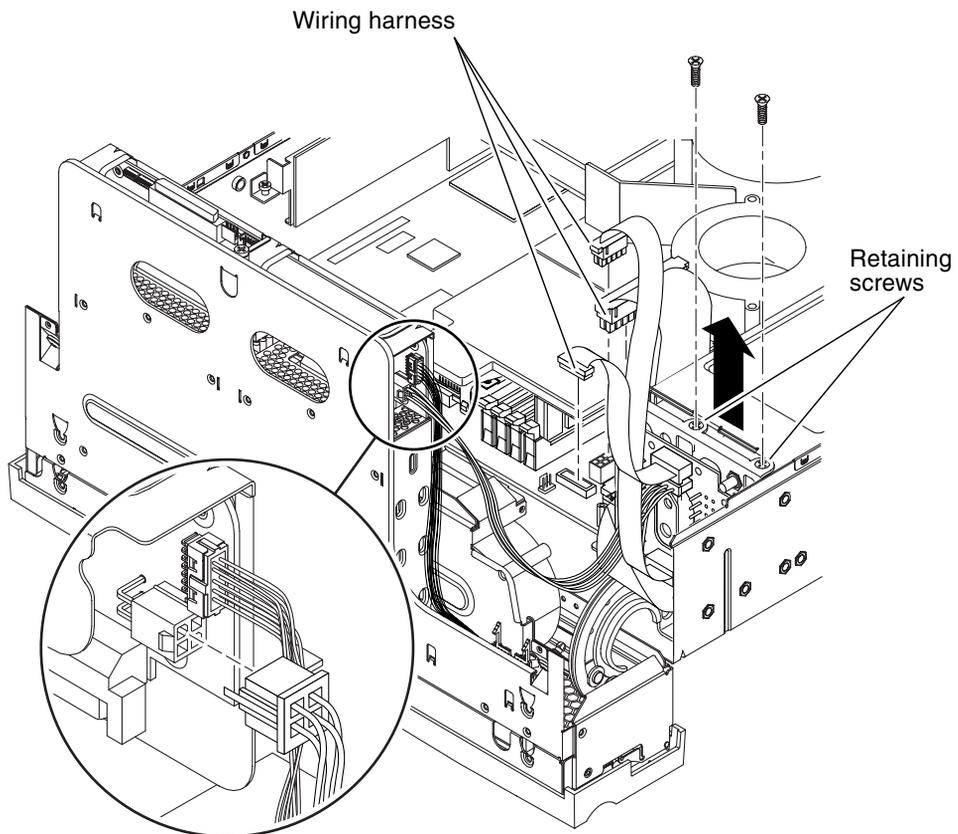

FIGURE 5-8 Removing the Power Distribution Board
6. Disconnect the power distribution board wiring harness from the three connectors on the system board (FIGURE 5-8).
7. Disconnect the power distribution board cable from the SCSI interface board (FIGURE 5-8).
- Using a No. 2 Phillips screwdriver, unscrew the two retaining screws that hold the power distribution board in place (FIGURE 5-8).**
1. Insert the power distribution board in the server chassis (FIGURE 5-8).
2. Using a No. 2 Phillips screwdriver, secure the power distribution board to the server using the two retaining screws (FIGURE 5-8).
3. Connect the power distribution board cable to the SCSI interface board (FIGURE 5-8).
4. Connect the power distribution board wiring harness to the three connectors on the system board (FIGURE 5-8).